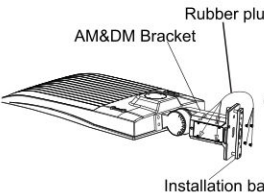

Figure 21
Step 1: Remove the four bolts from A&D bracket, remove the four rubber plugs from installation bar, put the four rubber plugs on the place where the four bolts were previously placed on the bracket for waterproof purpose(Figure 21)